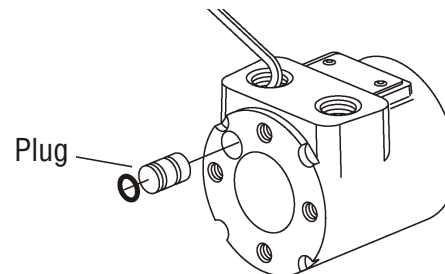

Figure 5-47, Housing Plug
9. A metal plug, with seal, plugs a machining hole in the housing. It is not necessary to remove the plug and replace seal unless leakage occurs around the plug. To remove the plug, insert a 5 mm (.187 in.) hex key through the port opening and push it out. (Figure 5-47)